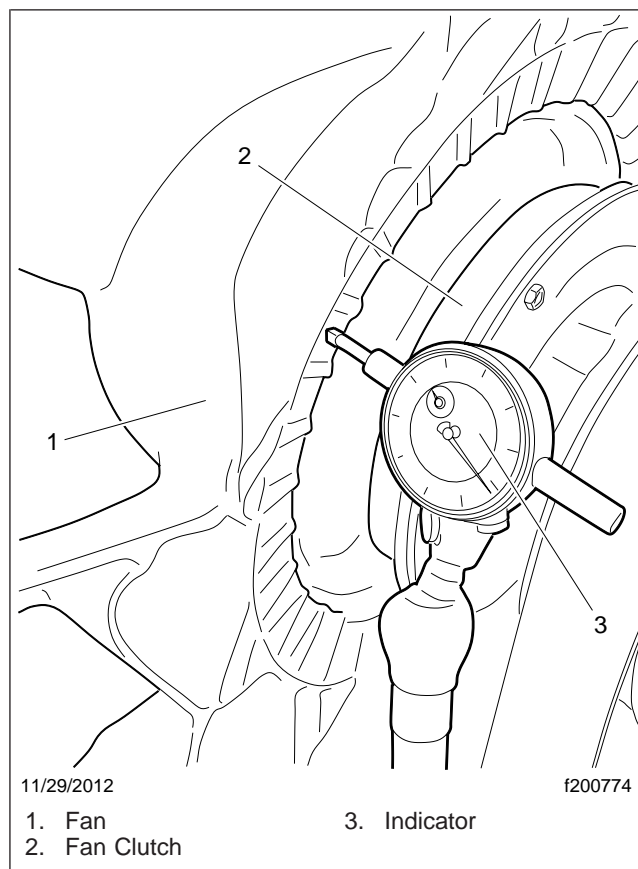

Fig. 1, Positioning the Indicator
2. Position the indicator on a flat surface near the outside diameter (OD) of the clutch hub section of the fan as shown in **Fig. 1**.